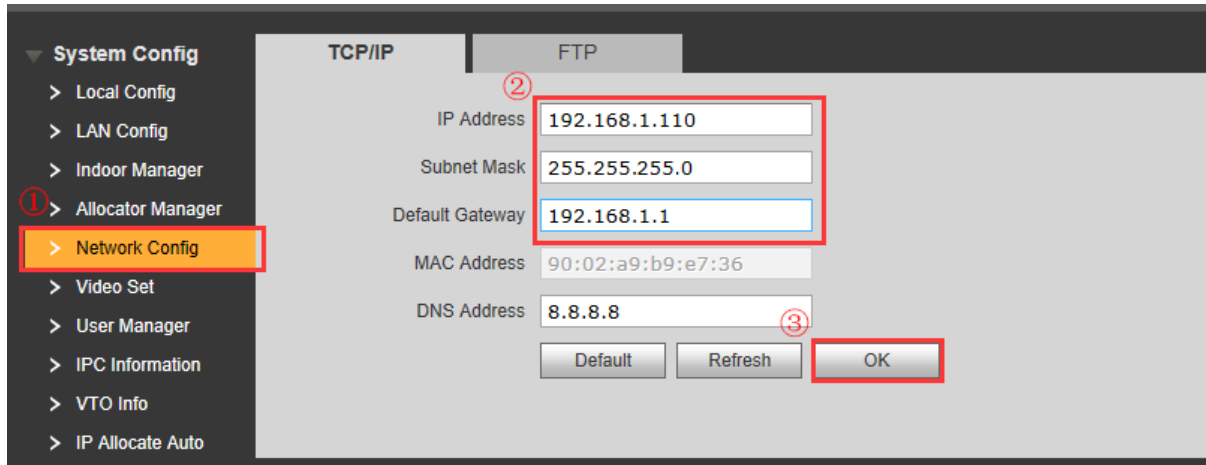

Figure 2-9
d) Set network information. See Figure 2-9.